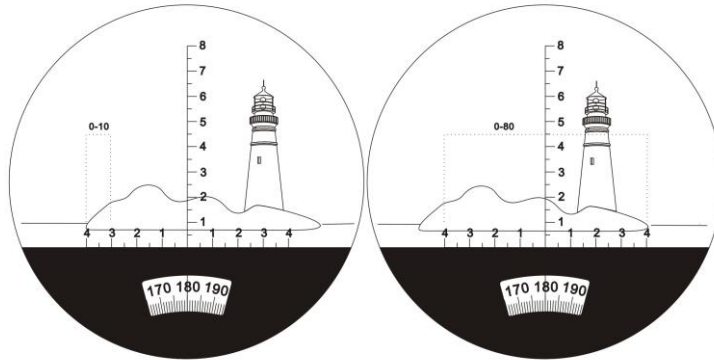

Fig. 5
4.2.2.B. When the Horizontal View Angle is bigger than the horizontal scale range (-40~+40 mils), a vertical line splits (for example: mast, chimney etc.) on the object can be selected to make the necessary estimated measurements in a step by step fashion. The sum of the value from each step is used to obtain the measured value. As shown in fig 5, the azimuth of target (**cruiser**) is 130 mils (60+70=130).